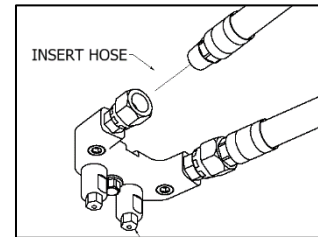

Figure 5: Coupling Block Hose Installation
2. Install hose to the Coupling Block ~~to the hose~~ (see Figure 5).